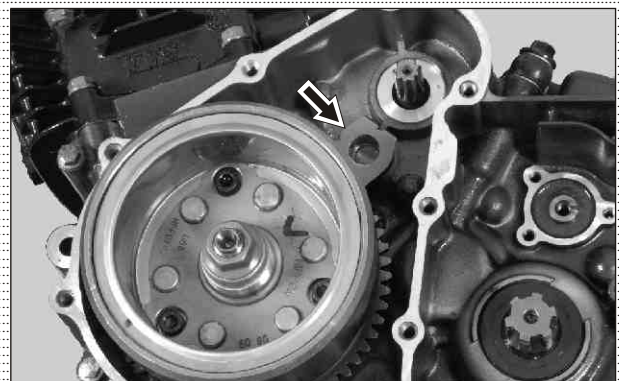

Fig. 3.53
- Remove stopper starter gear. (Fig. 3.53)